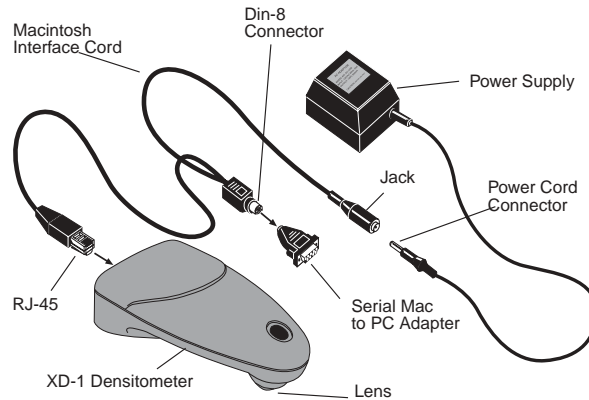
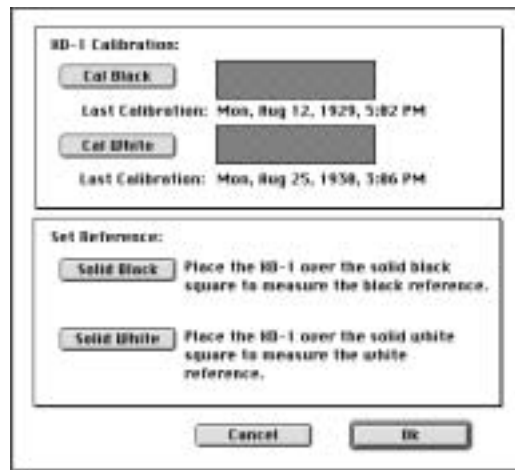

Fig. 2 Connecting the XD-1
Fig. 8 The XD-1 Calibration Window (Macintosh)
Note: To verify that the XD-1 is connected correctly, hold down the button on the top and look into the lens opening (fig. 2). You should see the colored LEDs (Light Emitting Diodes) flash as the XD-1 cycles.
5. Click Calibrate in either the XANTÉ Densitometer XD-1 (Found) box (fig. 6 Macintosh) or in the XD-1 (Found) box (fig. 7 PC). The XD-1 Calibration window appears (fig. 8 Macintosh or 9 PC)
6. Center the XD-1's lens (fig. 2) over the black dot (#2) on the Reflection Reference card. Then, using your mouse, click Cal Black in the Calibration window (fig. 8 Macintosh or 9 PC).
7. Center the XD-1's lens over the white dot (#1) on the Reflection Reference card. Then, click Cal White in the Calibration window (fig. 8 Macintosh or 9 PC).
8. Center the XD-1's lens over the solid black square (this should be box 0) on the calibration page which you printed in step 3e. Then, click Solid Black in the Calibration window (fig. 8 Macintosh or 9 PC).
9. Center the XD-1's lens over the solid white square (this should be box 255) on the calibration page which you printed in step 2. Then, click Solid White in the Calibration window (fig. 8 Macintosh or 9 PC).
10. Then click either OK (Macintosh) or Close (PC) to return to the Linearization window (fig. 8 Macintosh or 9 PC).